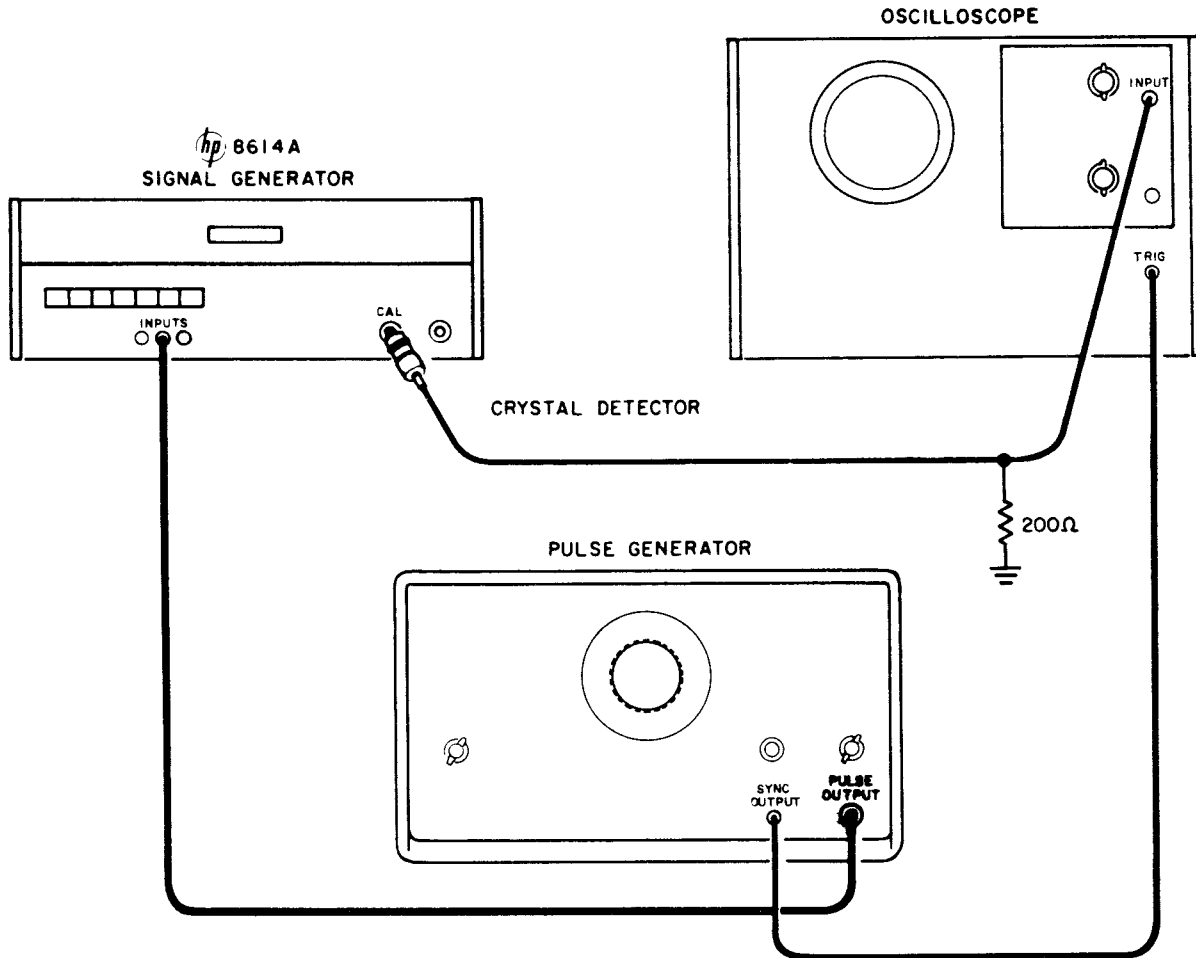

Figure 5-2. External Pulse Check
a. Connect instruments as shown in Figure 5-2.
e. To check external synchronization, connect equipment as shown in Figure 5-2.